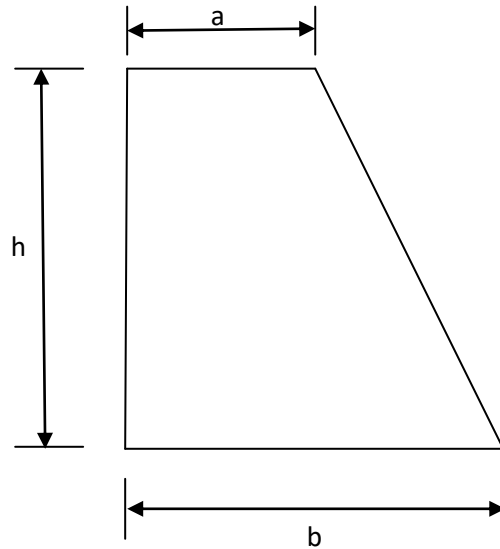

Fig.17
6. Find the centroid of the section of a masonry dam as shown in the Fig.17.